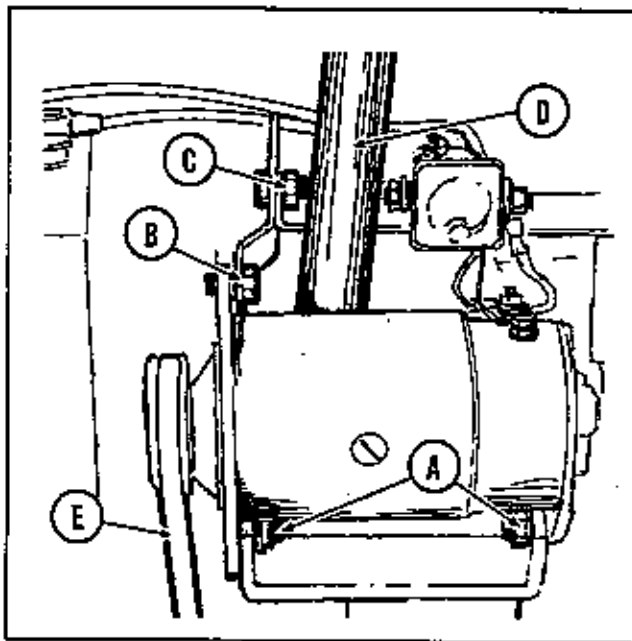

Figure 17. Generator located on right side of engine.
See figure 17. If the starter turns, but the engine does not rotate, the starter generator belt may need tightening. Proceed as follows:
2. See figure 17. Loosen slightly the two nuts (A) cap screw (B) and nut (C). Use a pry bar (D) similar to the one shown between the generator and engine block to apply pressure to the generator and tighten the belt. The belt should be tight enough so thumb pressure at (E) will deflect it about  $1/4''$ .
3. While holding the pry bar to maintain tension on the belt, tighten the mounting bracket at (C) securely.
4. Actuate the starter to make sure the engine will rotate. If it does not, loosen the nut at (C) and apply more tension to the belt.
5. Tighten the two nuts at (A) and the cap screw (B) securely.